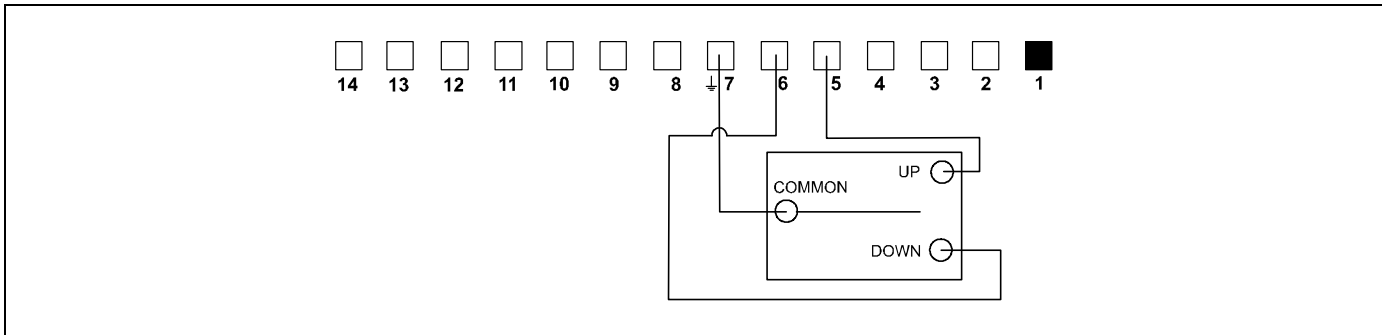

Figure 33
7. Connect the common wire from your switch to terminal 7. (See figure 33)